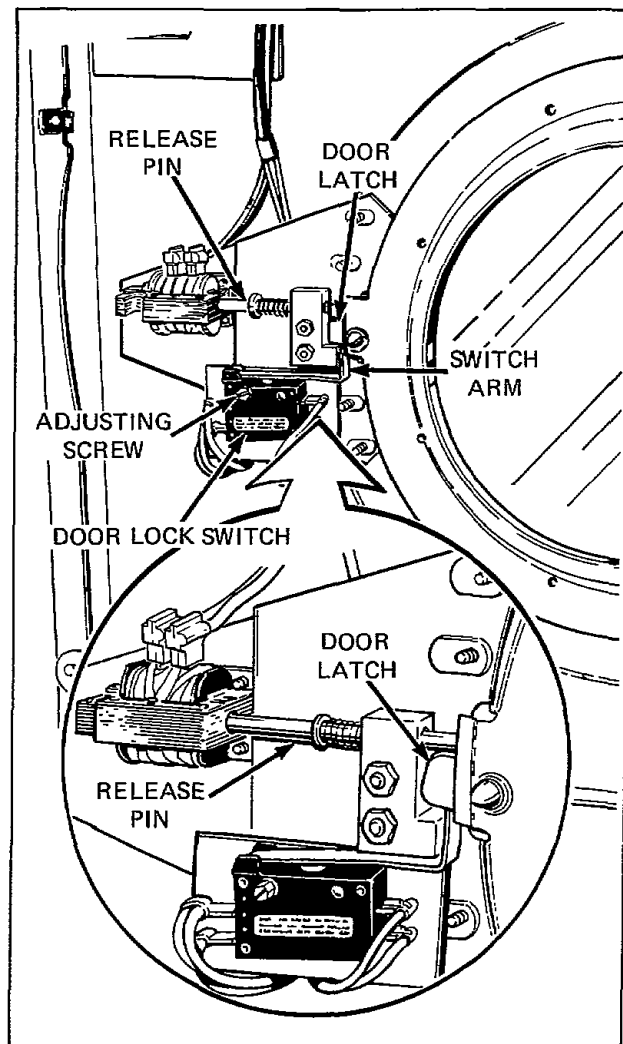

Figure 49
**46. DOOR LOCK ASSEMBLY (Refer to Figure 49)**